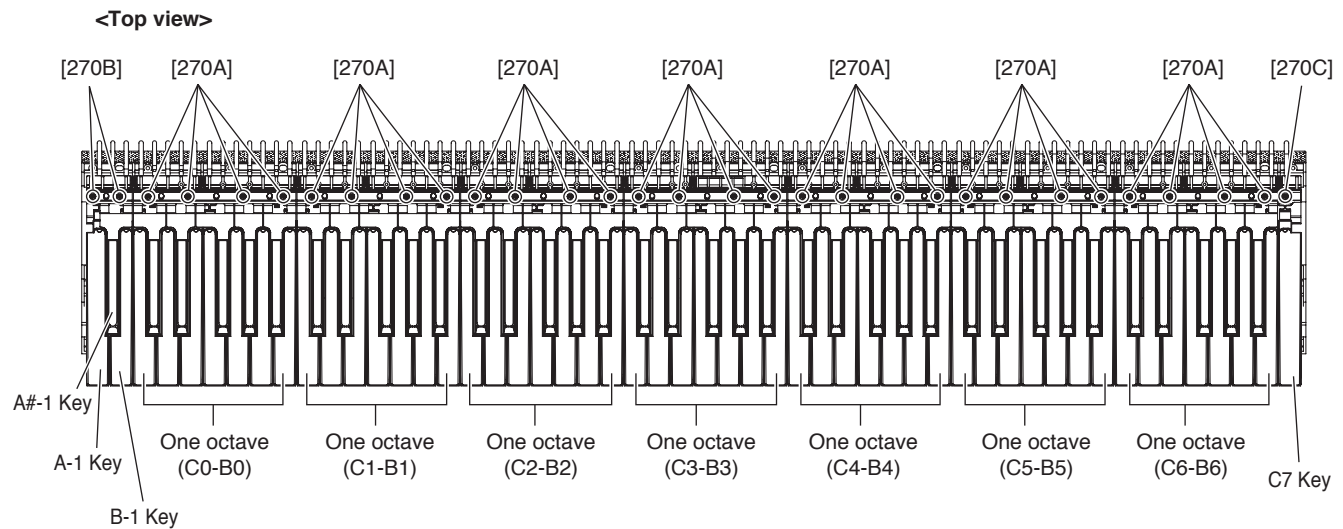
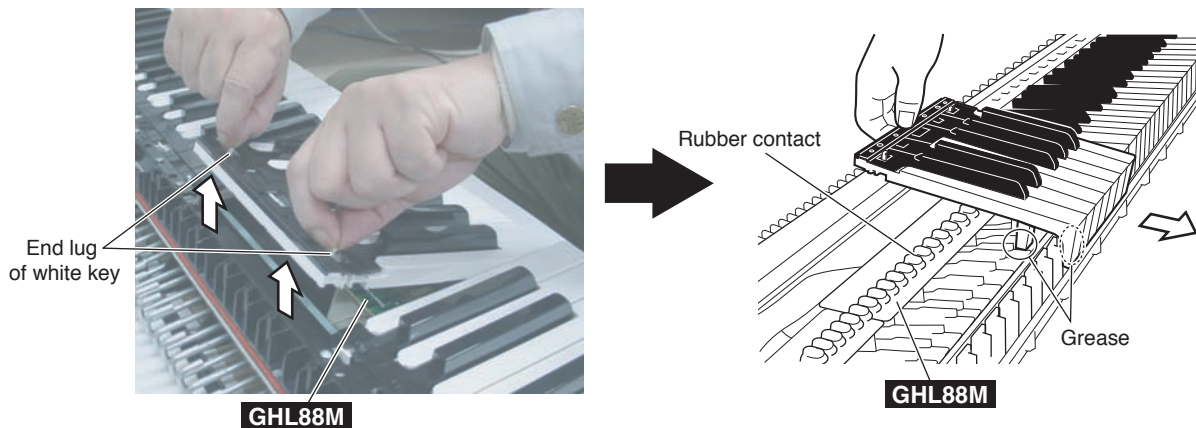

Fig.8
Fig.9
To remove the black and white key assemblies for one octave, grip and lift the both end lugs of white key, and then slide the black and white key assemblies towards you. (Fig.8, Fig.9)
- 7-2 When removing white keys numbered as A-1 and B-1 key and black key numbered as A#-1, remove two (2) screws marked [270B] and then lift the back of the keys and slide the black and white keys towards you. (Fig.8)
- 7-3 When removing the C7 key, remove a screw marked [270C] and then lift the back of C7 key and slide it towards you. (Fig.8)
* When removing white key assembly and black key assembly, be careful not to allow grease to attach to the circuit board and rubber contacts, etc. (Fig.9)
Use the four (4) screws marked [270A] to fix 1 octave white key assembly/black key assembly. (Fig.8)
8-8 Use the two (2) screws marked [270B] to fix the A-1 to B-1 keys. (Fig.8)
8-9 Use a screw marked [270C] to fix the C7 key. (Fig.8)